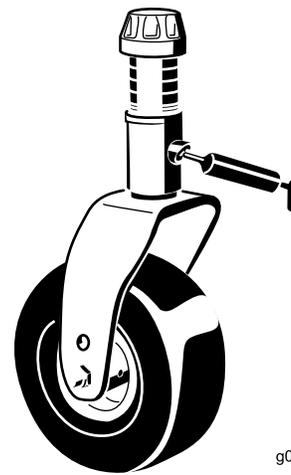

Figure 71
- 1 caster-fork-shaft bushing (Figure 71)